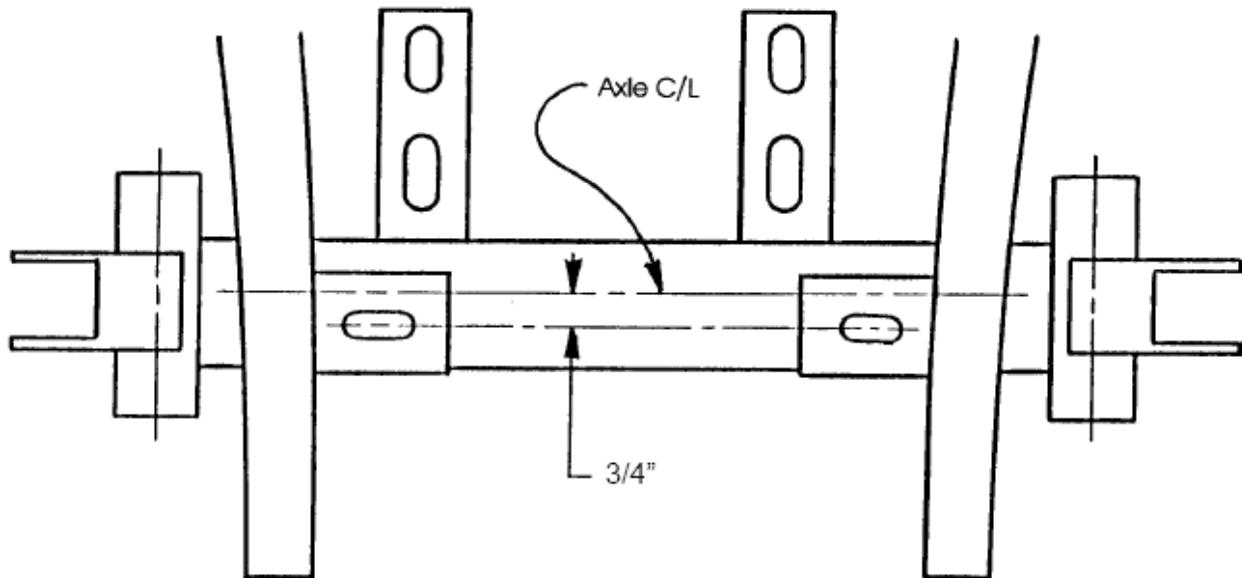

Figure 3A- Radiator Tabs
6. The radiator tabs are next. They are located 3/4" forward of the axle C/L and 1/2" below the top of the frame, as shown in **Figures 3A & B**. Clamp in place, then weld all around.